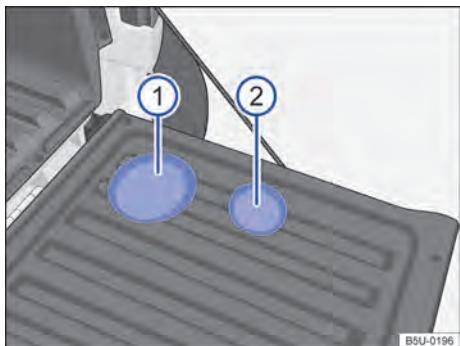

Fig. 102 In the tailgate lining: ① bottle holder and ② drink holders.
Open the tailgate to use the bottle holder → Fig. 102 ① and drink holders ②.